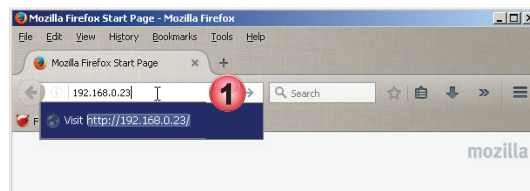

Figure 1-2: Enter IP Address 192.168.0.23
1. Open any browser and enter the Device factory default static IP address, **192.168.0.23**, see Figure 1-2.